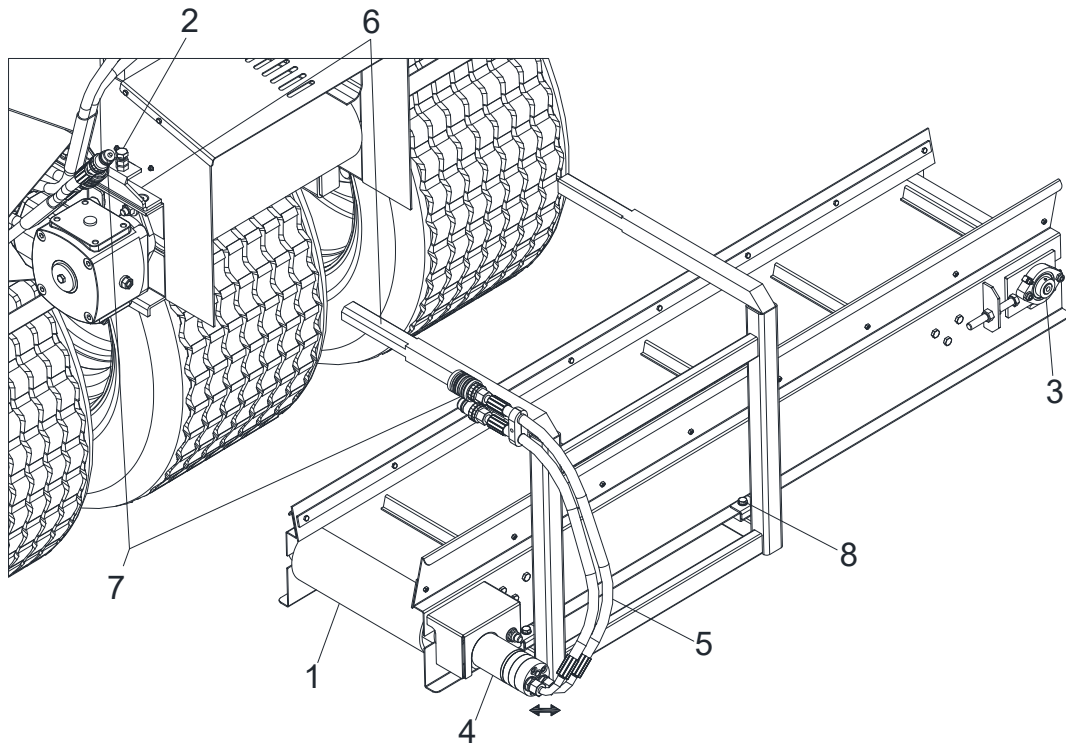
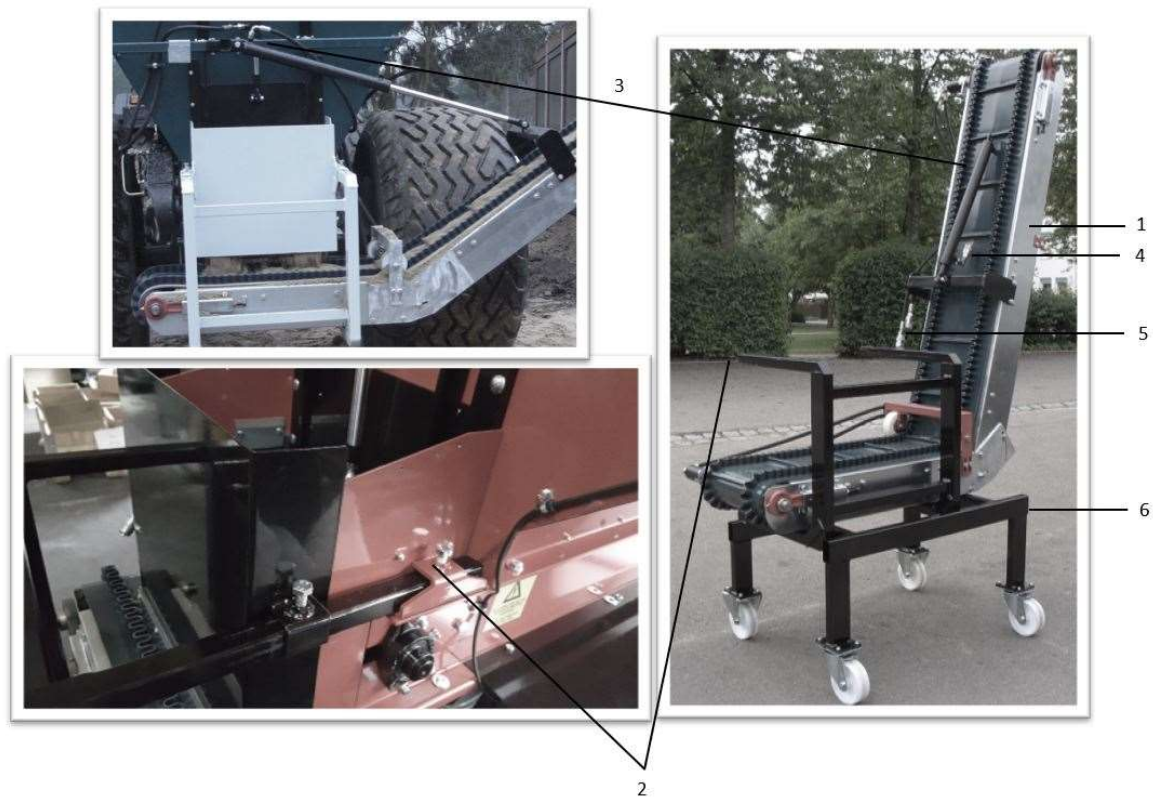

Fig. 16 Cross conveyor belt unit
Fig. 17 Lift conveyor belt
The optional cross conveyor belt (Fig. 16/1) is used for lateral spreading of the spreading material. The cross conveyor belt is inserted into the same mounting (Fig. 16/2) as the disc spreading unit and bolted to the support (Fig. 16/6). Either the disc spreading unit or the cross conveyor belt unit can be mounted on the disc spreader.
2. Disconnect the hydraulic plug connections (Fig. 16/7).
3. Loosen the screws of the mounting (Fig. 16/2) on both sides and pull off the disc spreading unit.
4. Push the support (Fig. 16/6) of the cross conveyor belt unit (Fig. 16/1) into the receptacle (Fig. 16/6) and secure with the screws (Fig. 16/2) on both sides.
5. Connect the hydraulic connections of the cross conveyor belt (Fig. 16/5) with the counter connections (Fig. 16/7).
6. The cross conveyor belt is switched on and off with the same control elements as the disk spreader unit. To change the direction of rotation, the two hydraulic connections on the hydraulic motor must be swapped. (Fig. 16/4).
7. Depending on the requirements and desired spreading direction, the cross conveyor belt can be shifted to the right and left as far as it will go by loosening the screws (Figure 16/8).
The lift conveyor belt (Fig. 17/1) is used for lateral spreading of the spreading material and for transferring the spreading material to another vehicle. The lift conveyor belt is inserted into the same holder (Fig. 16/2) as the disk spreader unit and bolted to the carrier (Fig. 16/2). Either the disk spreader unit or the lift conveyor belt can be mounted on the disc spreader.
3. Loosen the screws of the mounting (Fig. 16/2) on both sides and remove the disk spreader unit.
4. Slide the carriers (Fig. 17/2) of the lift conveyor belt (Fig. 17/1) into the holder (Fig. 17/2) and secure with the bolts (Fig. 17/2) on both sides.
5. Connect the hydraulic connections of the lift conveyor belt (Fig. 17/5) to the mating connections (Fig. 16/7).
6. Position the cylinder bracket (Fig. 17/3) and screw it in place.
7. Route the hydraulic lines, which are included in the delivery, with the hydraulic plug of the cylinder (Fig. 17/4) to the side of the disc spreader and connect to the towing vehicle. This hydraulic line is used to raise and lower the lift conveyor belt.
9. The lift conveyor belt can be stored using the parking chassis (Fig. 17/6).